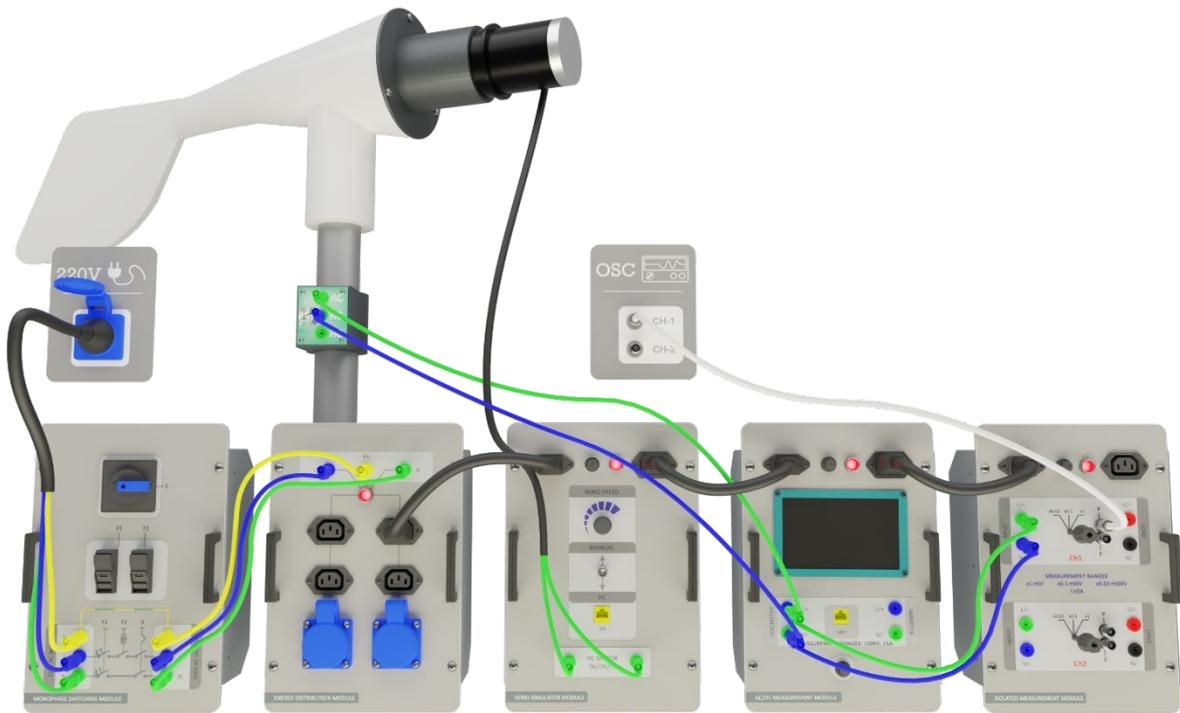

Figure-70. Installation Image of Examination of the Relation between Wind Speed and Turbine Operation
1. Make the connection as illustrated in Figure-70. Lock the caster of the wind turbine to prevent any movement.